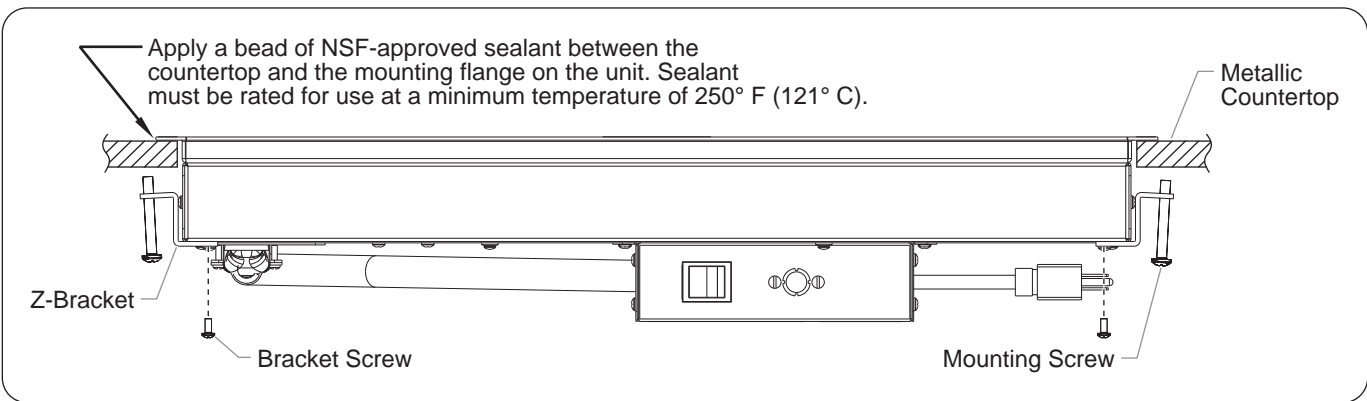

Figure 10. TS2-B Recessed Top Model Installation
6. Assemble the Z-brackets to the underside of the unit using the four bracket screws removed earlier in this procedure (see Figures 10 and 11).